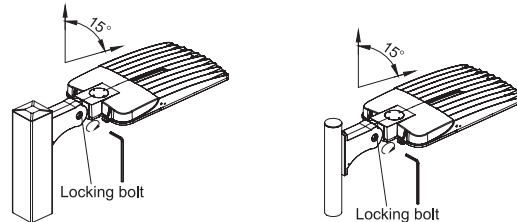

Figure 8
8. Loosen the locking bolt by a wrench to adjust the fixture to an appropriate angle, adjustment range 15°, then tighten this locking bolt as Fig 8.